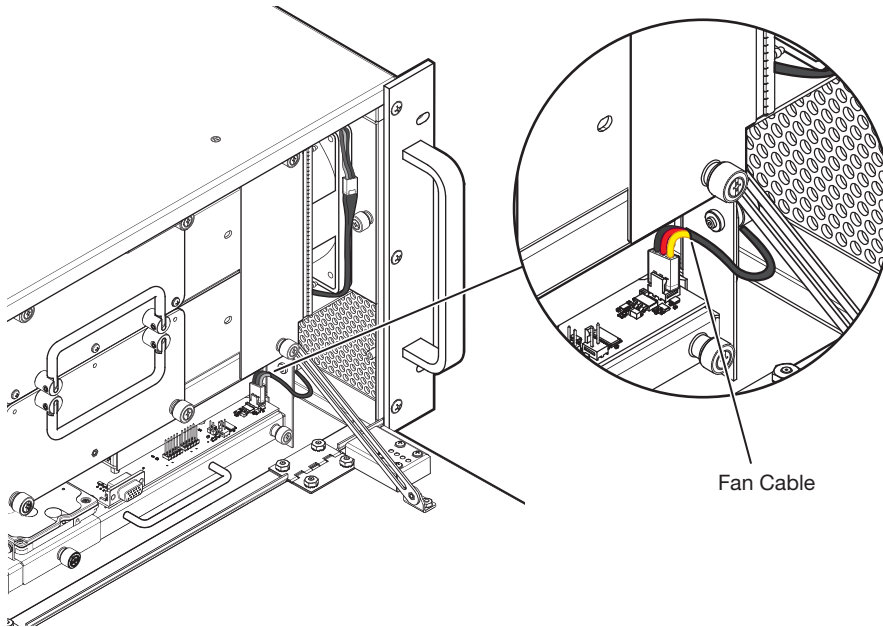

Figure 4. Unplugging the Fan Cable
3. Unplug the lower fan cable from the 3-pin connector at the right front corner of the SBC assembly (see figure 4).